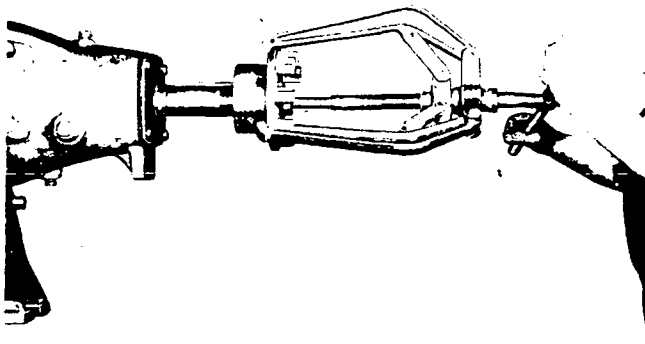

Fig. 20: Removal of coupling half
Remove the half of the coupling on the pump side using a normal detaching device (fig. 20); do not drive it off the shaft (210).